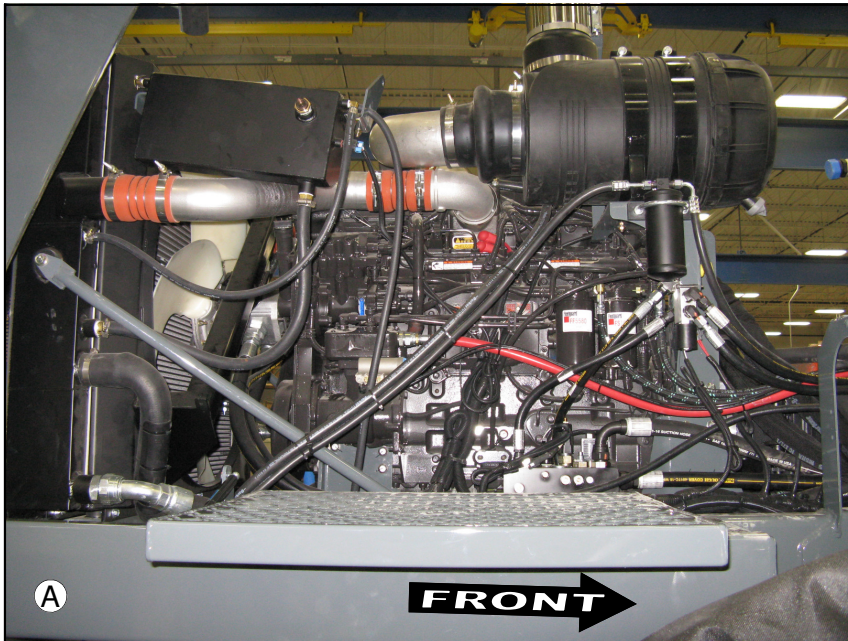
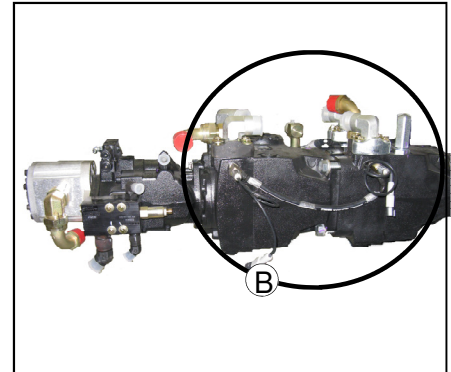

FIG. 32-1
FIG. 32-2
**CUMMINS ENGINE AND TANDEM PUMP**– The STS 16 comes standard with a 365hp Cummins diesel engine (fig. 32-1) equipped with an automatic engine brake. The engine has a direct mounted Sauer-Danfoss H1 Series tandem hydrostatic pump (fig. 32-2). More information on the operation of the engine is on the next page.